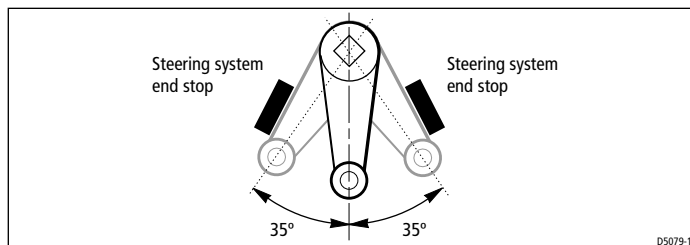

Figure 8: Total rudder movement
- The total rudder movement is limited to +/- 35 degrees by the steering system end stops rather than the linear drive's end limits (see *Figure 8*).